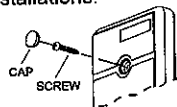

Figure 3-1 Front Cover
- Open the case by removing the screw from the front cover (figure 3-1). The round plastic cap is supplied separately in a small nylon bag. Save it for later use.